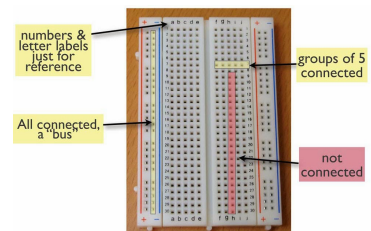

Figure 1: Connections in a prototyping board.
- Use the buses (the long horizontal strips shown in Figure 1 for power and ground connections. Good bus habits will save you lots of time and trouble with complicated circuits by making your circuit wiring more transparent and by removing unnecessary clutter.
- Build your circuits compactly. Long leads between components introduce stray capacitance and can result in oscillations or high frequency [e.g., radio frequency (RF)] pickup.